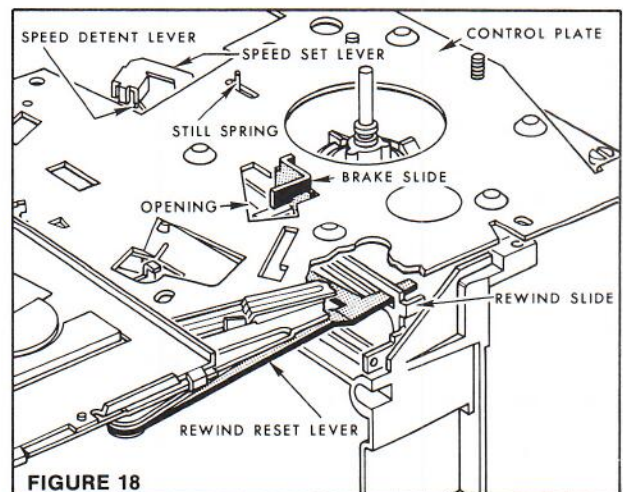

FIGURE 18
2. Slide the REWIND RESET LEVER through the slot in the REWIND SLIDE, Figure 18, Page 10.
3. Place the BRAKE SLIDE through the OPENING in the CONTROL PLATE, Figure 18, Page 10.
4. Place the box on the SPEED SET LEVER over the SPEED DETENT LEVER, Figure 18, Page 10.
5. Place the STILL SPRING through the opening in the CONTROL PLATE, Figure 18, Page 10.